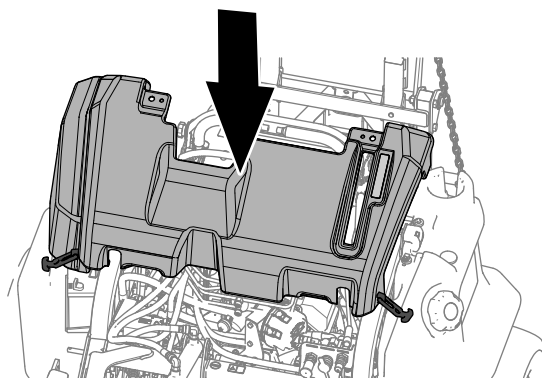

Figure 65
1. Lower the hood onto the machine (Figure 65).